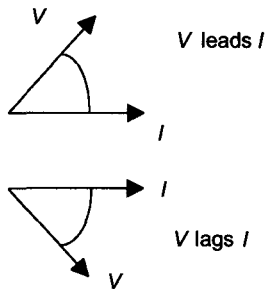

Figure 17.4 *Leading and lagging*
- 3 The angle between two phasors shows the phase angle between their waveforms. The phasor which is at a larger anticlockwise angle is said to be leading, the one at the lesser anticlockwise angle lagging (Figure 17.4).